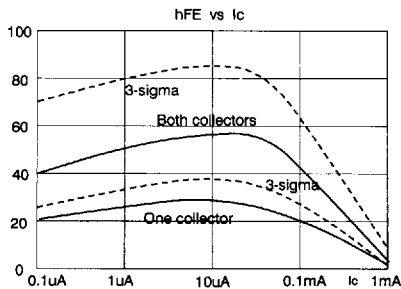

Figure 2
- Current gain = 40 to 90 (Figure 2)